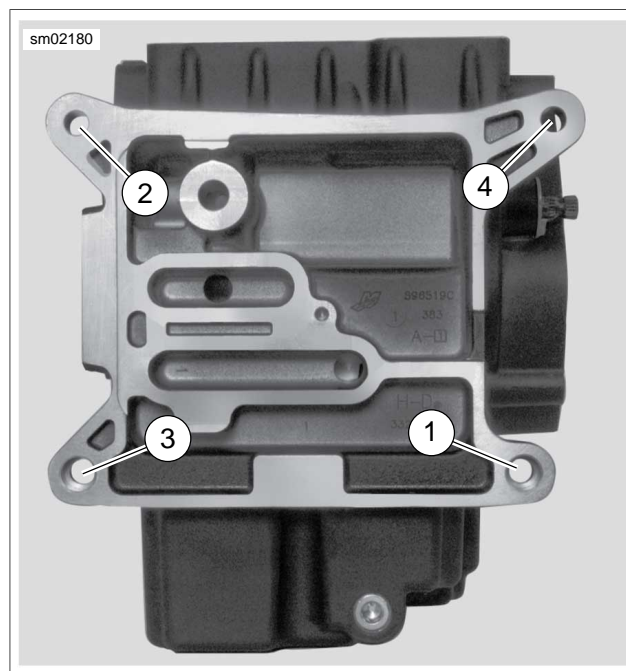

Figure 3-16. Transmission Housing to Crankcase Torque Sequence
5. See Figure 3-16. Tighten the four transmission mounting bolts in the sequence shown as follows: